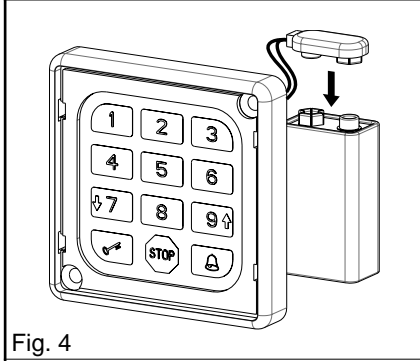

Fig. 4
- connect the battery to the keyboard front as shown in fig. 4;